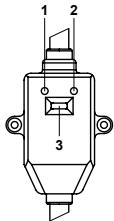

Fig. 8
| Heating indicator off | The protection of the RCD worked. | Test the RCD by clicking the "test" button. If the RCD has passed the test, press the restart button (3). If the test fails, contact the maintenance specialists to carry out repairs (see Fig. 8). |